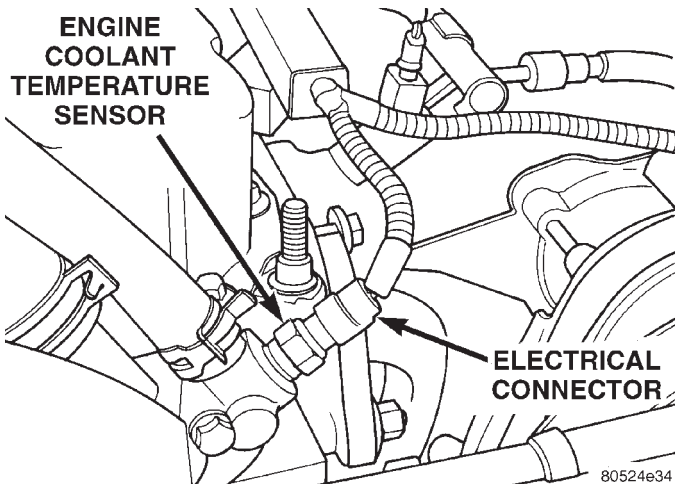

Fig. 39 Engine Coolant Temp. Sensor—4.0L Shown
(19) Verify that wire harness connector is firmly connected to the engine coolant temperature sensor (Fig. 39).